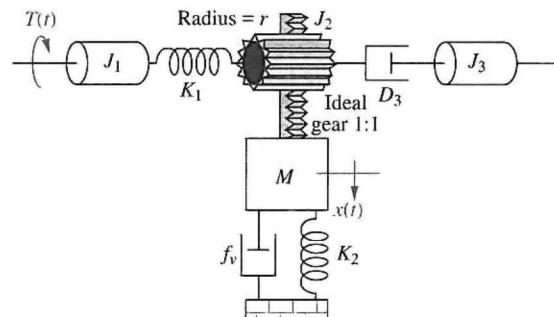

FIGURE P2.27
41. Given the combined translational and rotational system shown in Figure P2.27, find the transfer function, $G(s) = X(s)/T(s)$. [Sections: 2.5; 2.6]